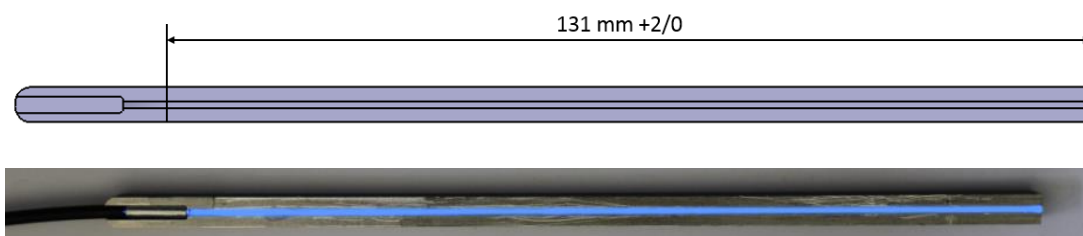

Figure 15 Scratching area; scratched light bar
3.1.3.5 The scratching of the fibre has to be done in a darkened room to be able to see directly the result by eye during light is injected to the fibre with the laser device. Before starting, a control of the height of the Vernier height gauge with respect to the middle of the fibre in the light bar is necessary. Scratch the fibre with a continuous movement so that light is coming out over the whole scratching area. In "Figure 15" the area and its delimitation is shown.